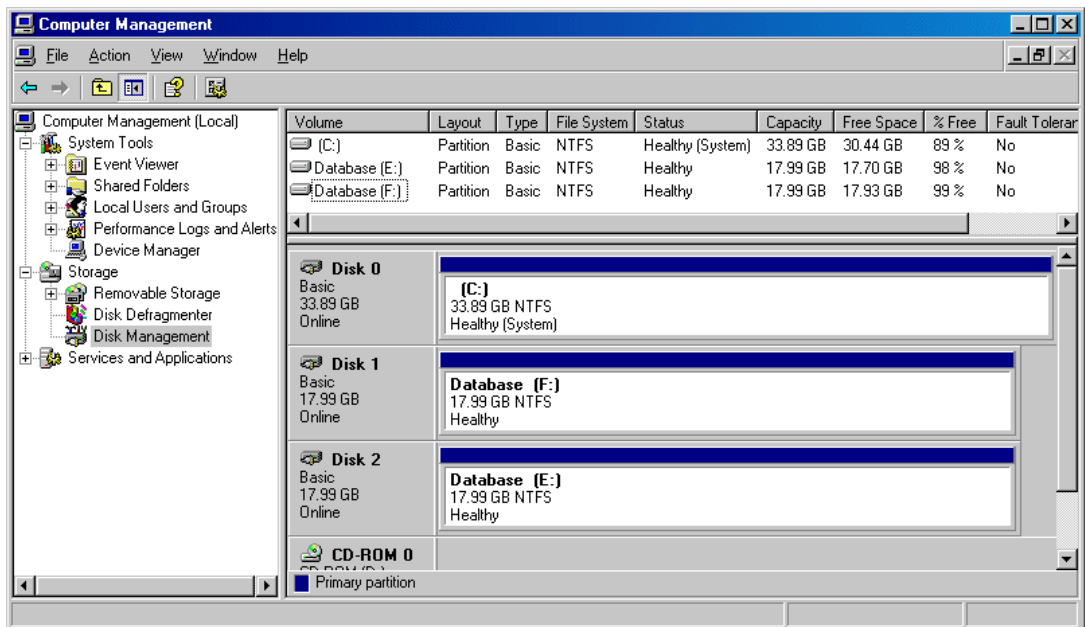

Figure 10-12 Windows drives after FlashCopy
- ▶ Windows “discovers” a new drive with the same name and capacity as the source drive (drives F: and E: in Figure 10-12).